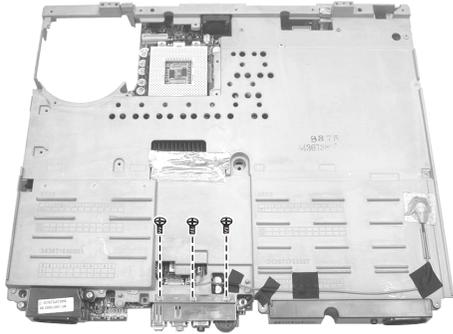

Figure 2-28 Remove the audio shielding
8. Carefully turnover it. To detach the audio shielding , remove the three screws fastening it. (Figure 2-28)